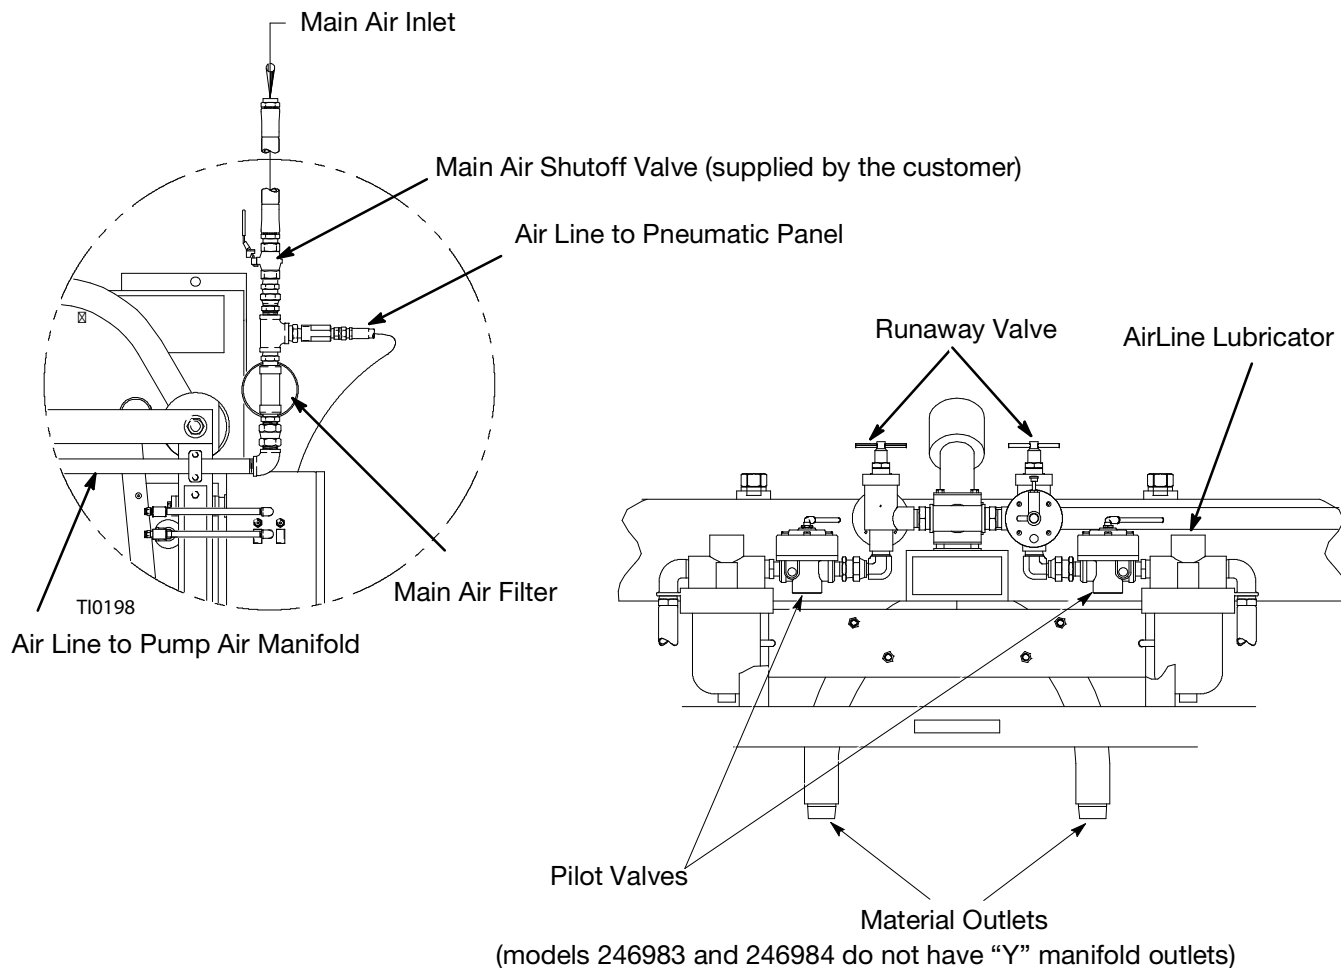

FIG. 5
4. Open the main air shut off valve, making air pressure available to the unit. See FIG. 5 on page 17.